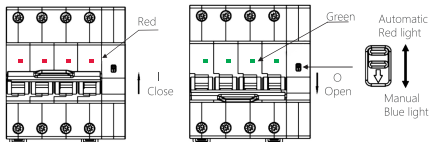

Figure 3 Circuit breaker closing/opening status indication, mode selection switch "Automatic" and "Manual" positions
8.1 Before installation and use: check whether the circuit breaker mark is consistent with the working conditions used; Before power on, the circuit breaker shall be operated several times, and its mechanism action shall be flexible, reliable, and free of blocking. See Figure 3 for the circuit breaker closing/opening status indication and the "Automatic"/"Manual" position of the mode selection switch.